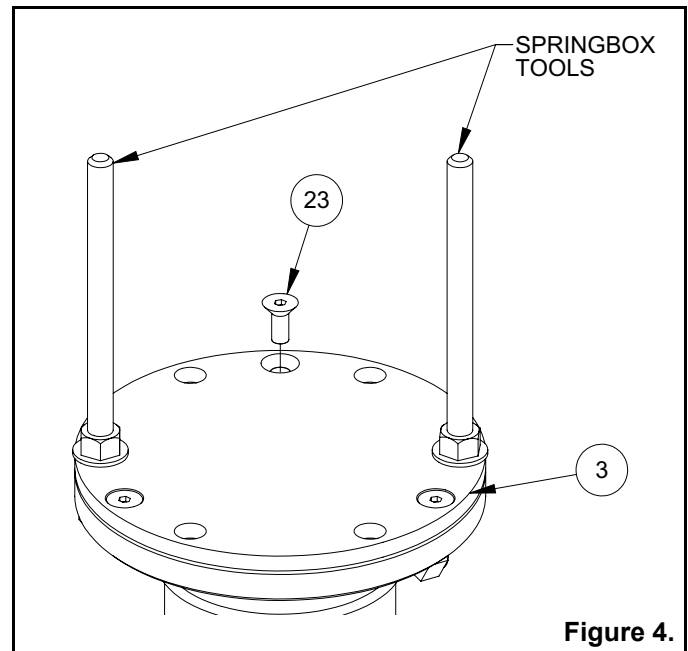

Figure 4.
- Insert the springbox tool (MBW #20260) rods into the springbox assembly as shown in Figure 4.